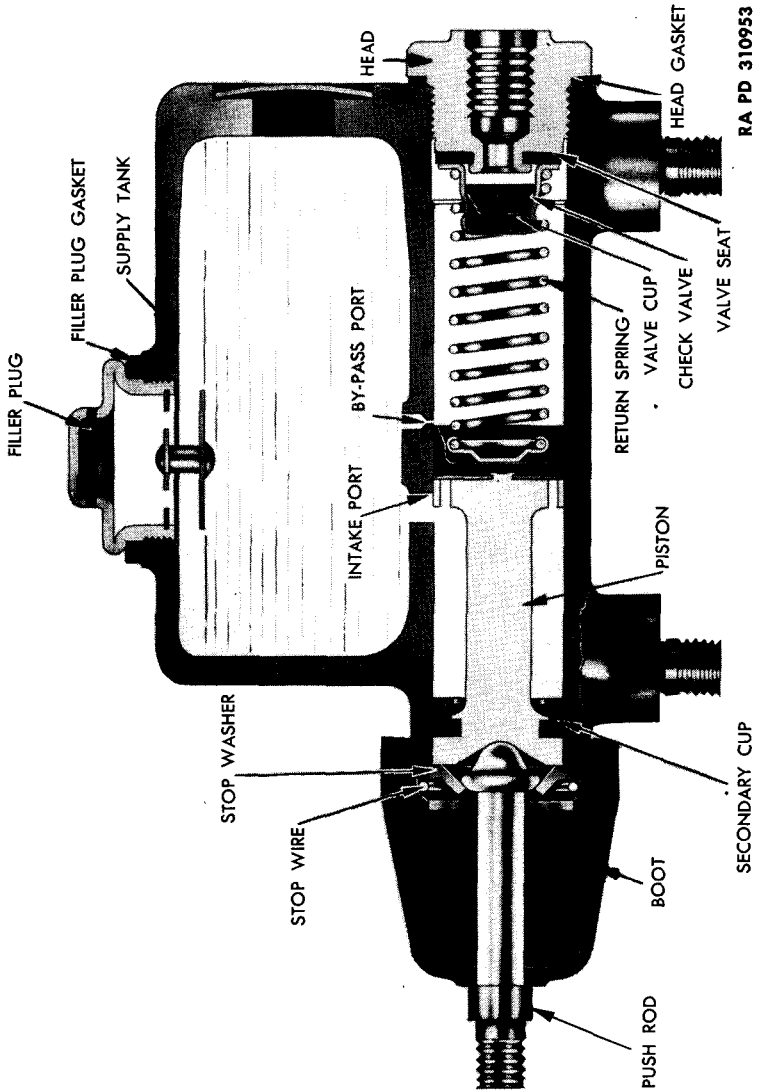

Figure 2 -- Combination Type Master Cylinder with Removable Head
c. Assemble and Install Check Valve (fig. 2). Install new check valve cup in check valve body. Install check valve with large diameter toward the removable head.
g. Install Boot. Slip large end of boot over push rod and work the push rod through small hole of boot until beads of boot are positional, as in figure 2.